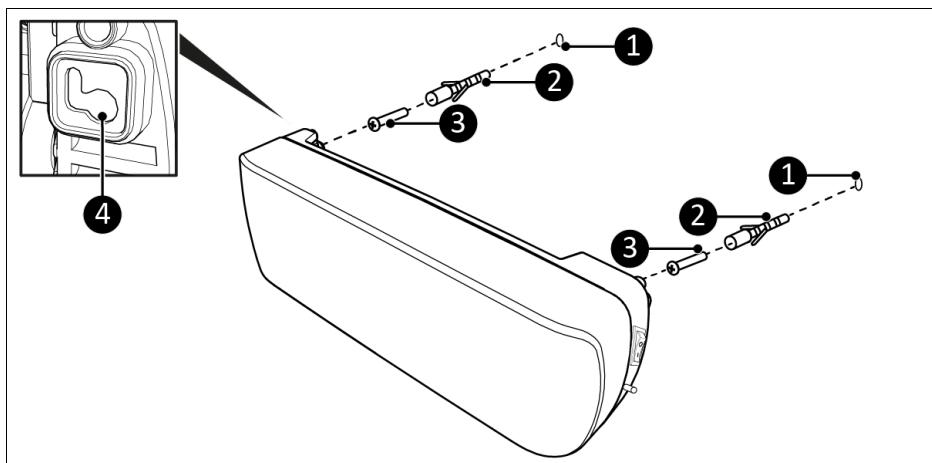

Figure 7
4. Drill two 10 mm holes 39.8 cm horizontally apart from each other at the required location (Figure 7, pos. 1).
5. Insert the plugs into the holes (Figure 7, pos. 2).
6. Firmly screw the screws into the plugs (Figure 7, pos. 3). Make sure the screws stick out 10 mm.
7. Place the hanging eyes on the back of the device over the screws in the wall (Figure 7, pos. 4).